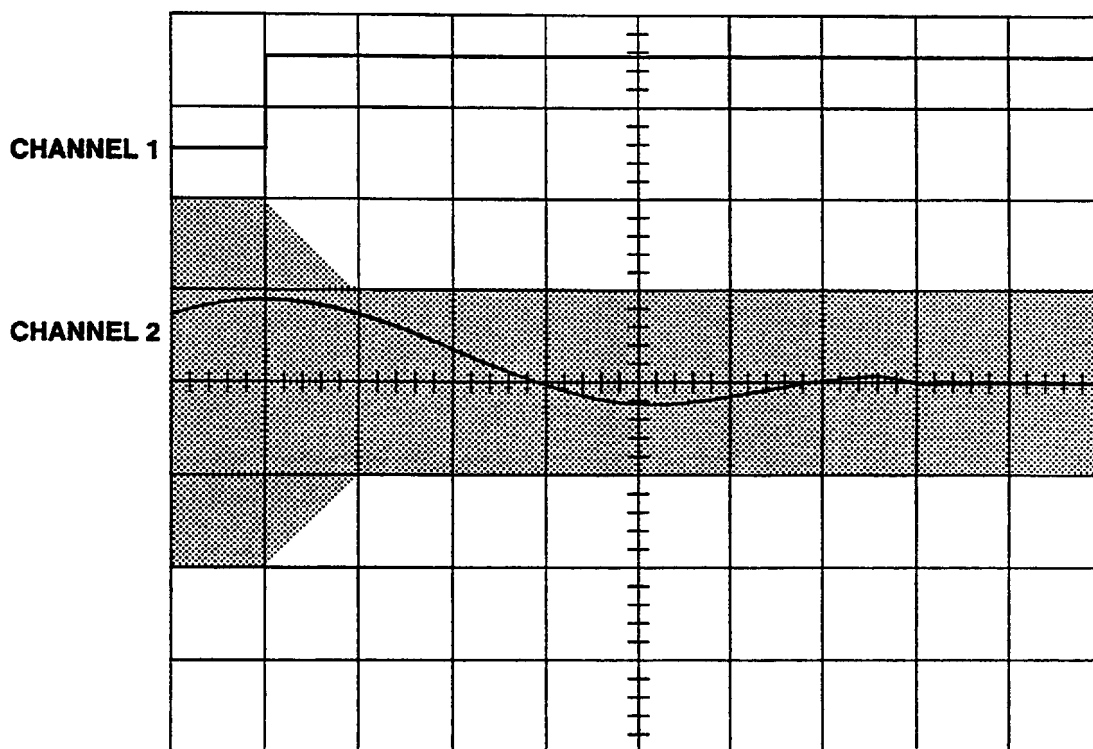

FIGURE 7 - SCOPE DISPLAY
12. Compare the waveform against Figure 7. The channel 2 trace should lie within the shaded region.